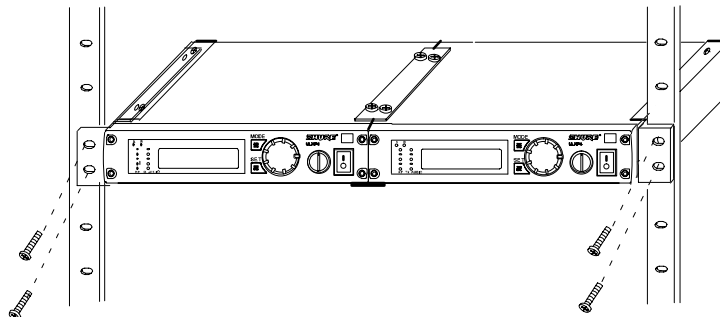

FIGURE 51
6. Slide the linked receivers into a 19-inch equipment rack. Refer to Figure 51.